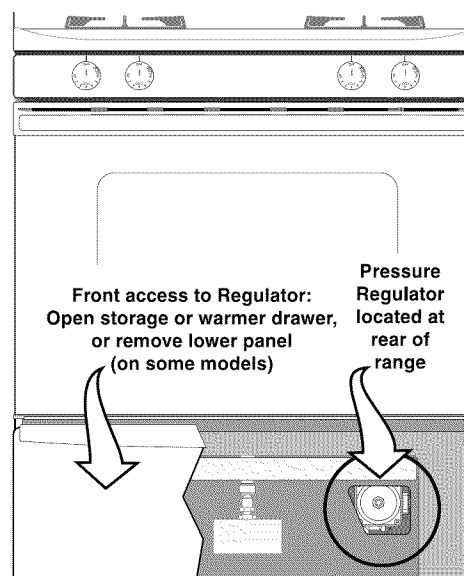

Fig. 2
- Pull the drawer away from the range (See Fig. 2).